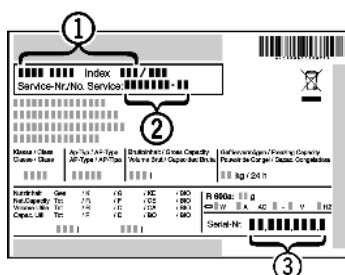

Fig. 39
- Read off the appliance name *Fig. 39 (1)*, service no. *Fig. 39 (2)* and serial no. *Fig. 39 (3)* from the model plate. The model plate can be found on the inside of the appliance on the left.